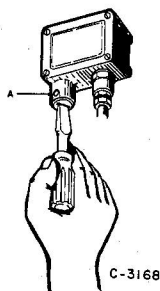

Figure 2-8. Pressure Switch Adjustment
To adjust the switch, loosen set screw (A), Figure 2-8, with an Allen wrench. With a screw driver, turn the adjusting screw clockwise to raise the cut-out point (increase pressure) or counterclockwise to lower the cut-out point (decrease pressure). When the desired pressure is established, tighten the set screw. The differential, or span between cut-out and cut-in, is fixed and varies with the cut-out setting of the switch. (Important: Do not increase the cut-out setting beyond the point originally established at the factory without consulting the nearest I-R branch office.)